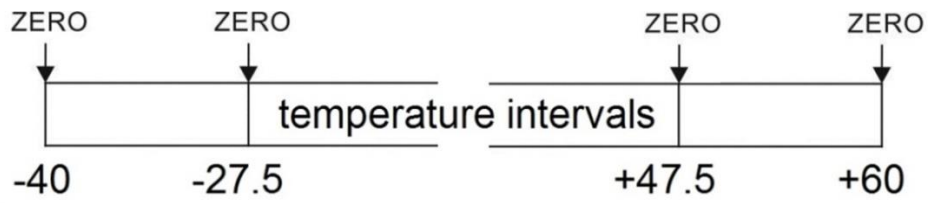

Fig. 11. Scheme of the temperature coefficients adjustment
5. When temperature is stable, for each of 9 points of temperature range send <ZERO> command by which current temperature ADC value and ratio S_t value (see Table 15) are written to sensor memory (see Fig. 11).